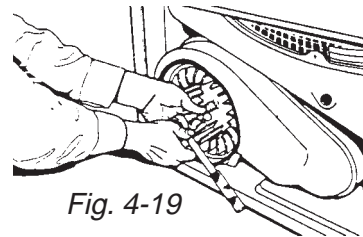

Fig. 4-19
5. Using a 3/8" socket drive with a 3/8" -1/2" adapter or 1/2" drive, remove the blower wheel. (Fig. 4-19) The blower wheel has left-hand threads. Rotate the wheel clockwise to remove. Directional arrows are molded on the front edge of the wheel showing which way to turn to loosen and tighten.